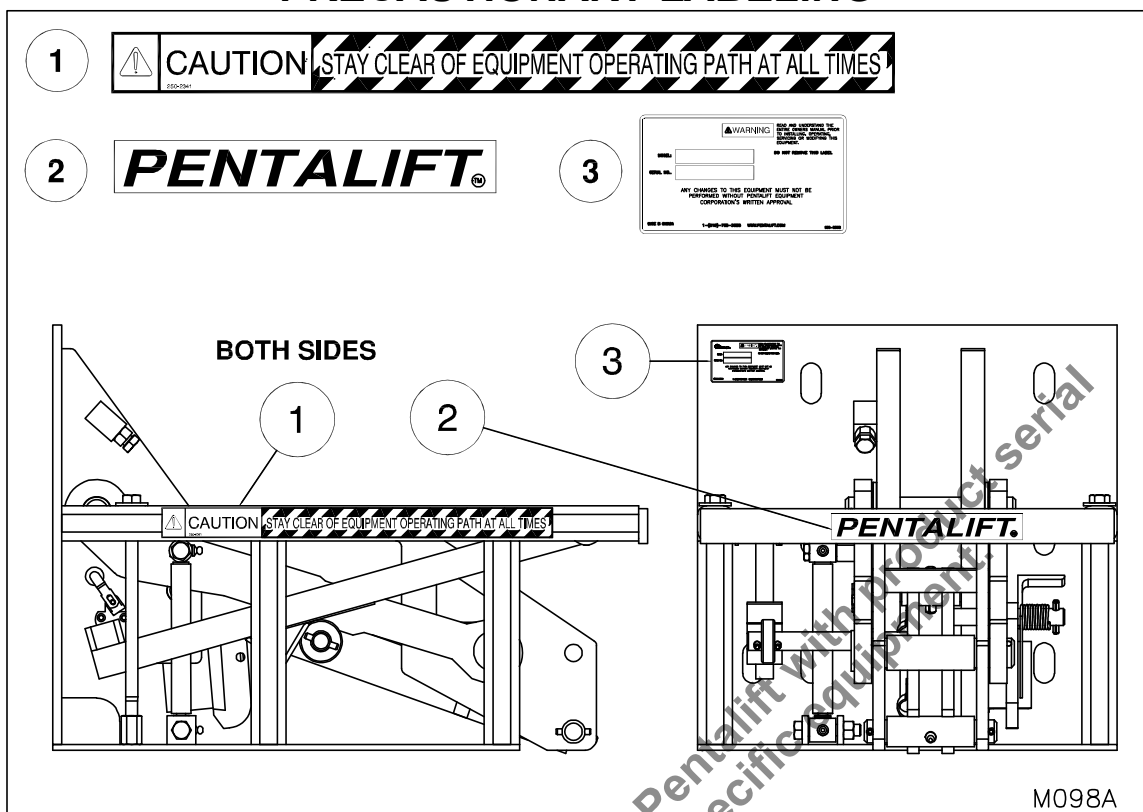

Figure 1: Precautionary Labels
**Note:** In some instances, product configuration and / or product options may dictate that the product labels will not be placed as indicated on the drawing (Figure 1: Precautionary Labels). Different label locations will be selected at the factory, when required, to avoid the viewing of the label being impaired. Note the label locations as supplied on the product, when it is received to accommodate future label replacement requirements.